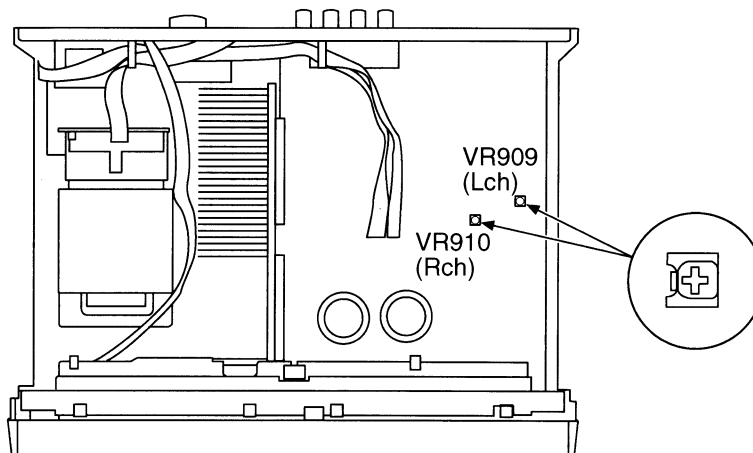

Fig.2
2. Before turning **ON** the set, adjust **VR909 (L ch)** and **VR910 (R ch)** to mechanical center position. Shown in Fig.2